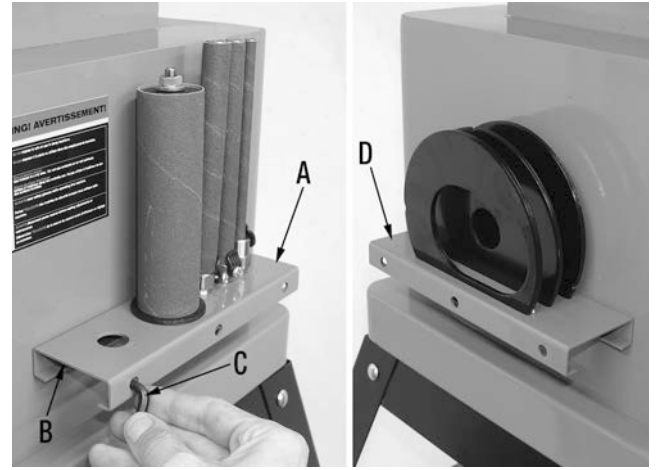

FIGURE 3
1. Mount the drum/spindle on-board storage bracket (A) Fig.3 to either side of the spindle sander cabinet using 3 cap screws (B). To simplify the assembly, place the hex. key (C) through the front holes in the bracket to tighten each cap screw.
2. Repeat the above step for the table insert on-board storage bracket (D).